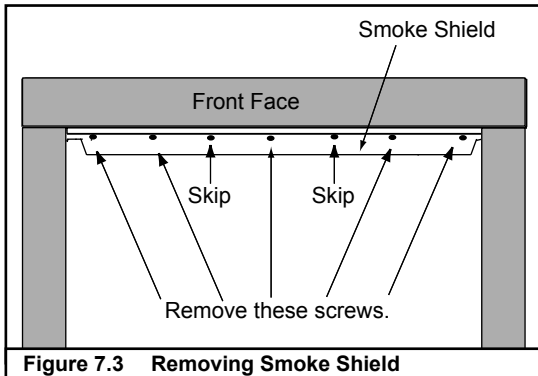

Figure 7.3 Removing Smoke Shield
- Remove smoke shield by removing five screws. See Figure 7.3. Smoke shield is located at top of fireplace front.